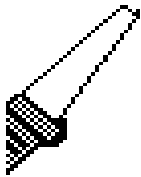

Figure 2. Fixed Extension
**CONFIG EXTENSION** - This section configures two extensions with minimum and maximum length, a minimum and maximum angle (**OFFSET MIN/MAX**) for the second extension (**LENGTH 2**), and whip extension or variable angled extension with angle sensor. Use Figures 2 through 5 to help identify your configuration. Press "OK" and proceed by entering extension lengths, angle, and calibrating whip extension angle. Configure the extensions that your crane will use and enter zero for unused portions of **CONFIG EXTENSION**. Recommendation: Set up the extension's minimum length as zero, so if this extension is removed you can change the length in the **SELECT** section of operation instead of entering calibration mode to remove extension.